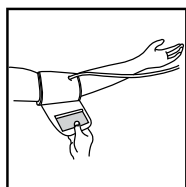

Fig. 7
5. Pull the cuff so that the top and bottom edges are tightened around your arm (Fig. 7).